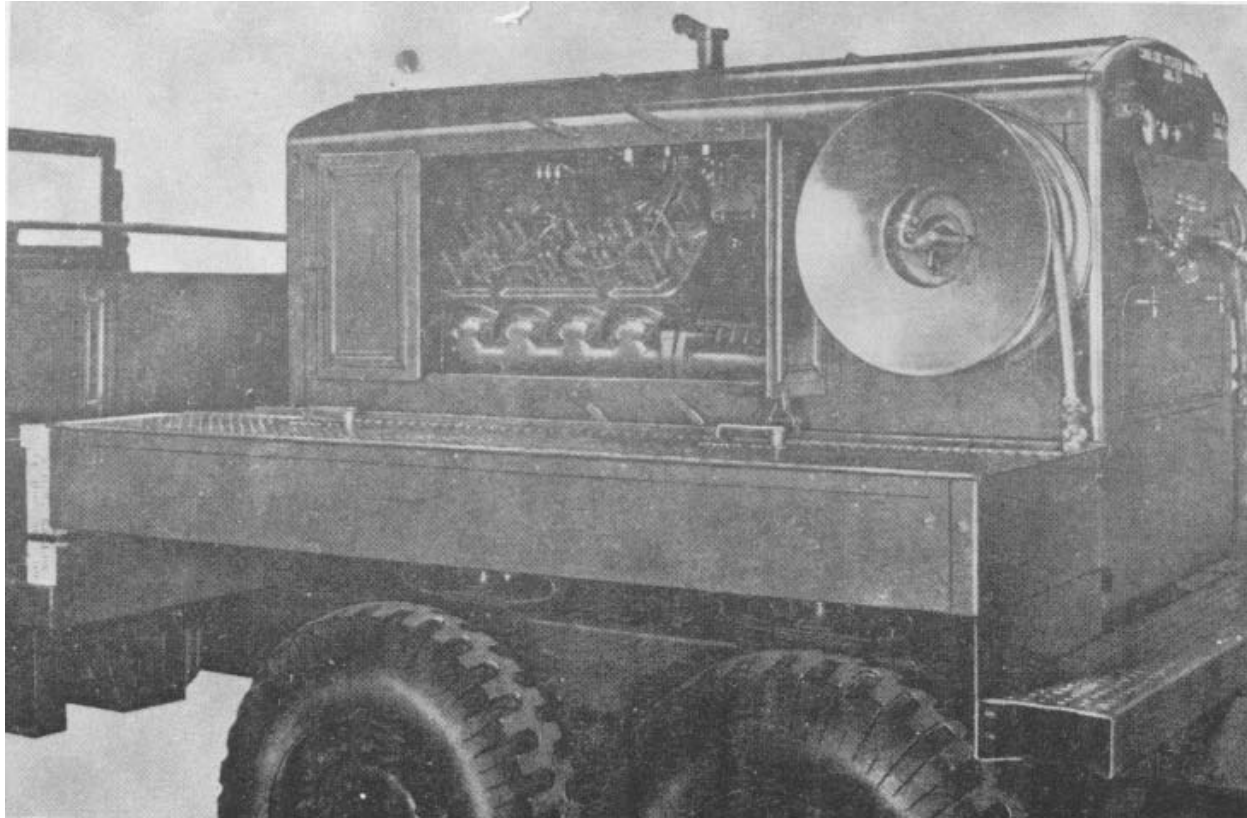

Figure 1. Air component mounted on truck.
a. *General Information.* The Le Roi truck-mounted air compressor Model 210G1 (fig. 1) is a self-contained unit complete with all controls, switches and indicators necessary for normal operation. The engine-compressor is completely inclosed in a sheet metal housing (fig. 2). Doors in the housing (fig. 1) provide access to all parts of the engine, compressor, and instrument panel. A weather cap mounted on the engine exhaust pipe prevents the entrance of moisture into the engine. The basic engine-compressor is set in a steel frame with neoprene vibration dampers to alleviate vibrations. The entire unit is mounted on a 2 1/2-ton, 6 x 6 truck. Hose reels (fig. 3), valves, and instruction plates are located at the rear of the compressor.